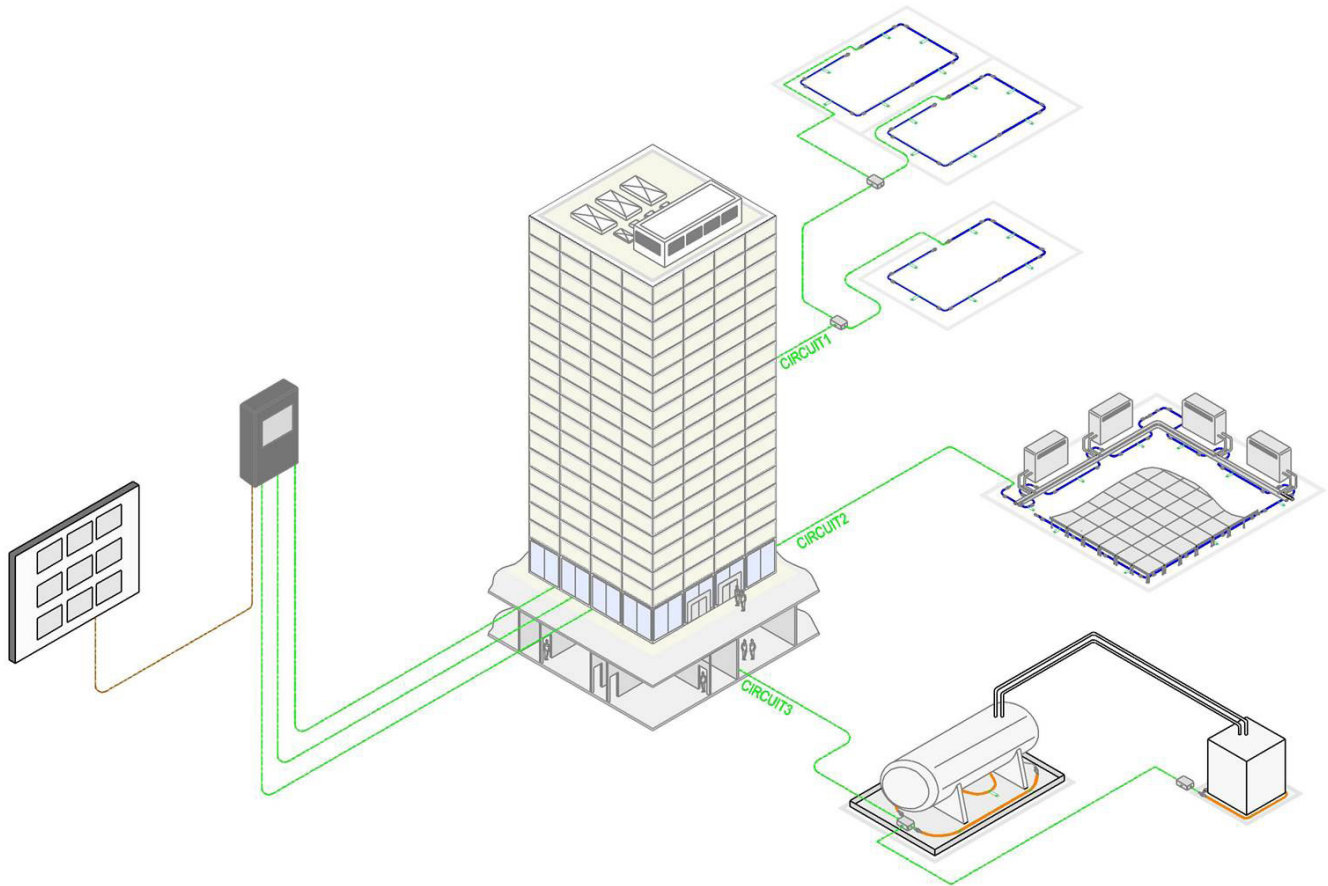

Figure 2.4
**Layout explanations (Figure 2.4) :**